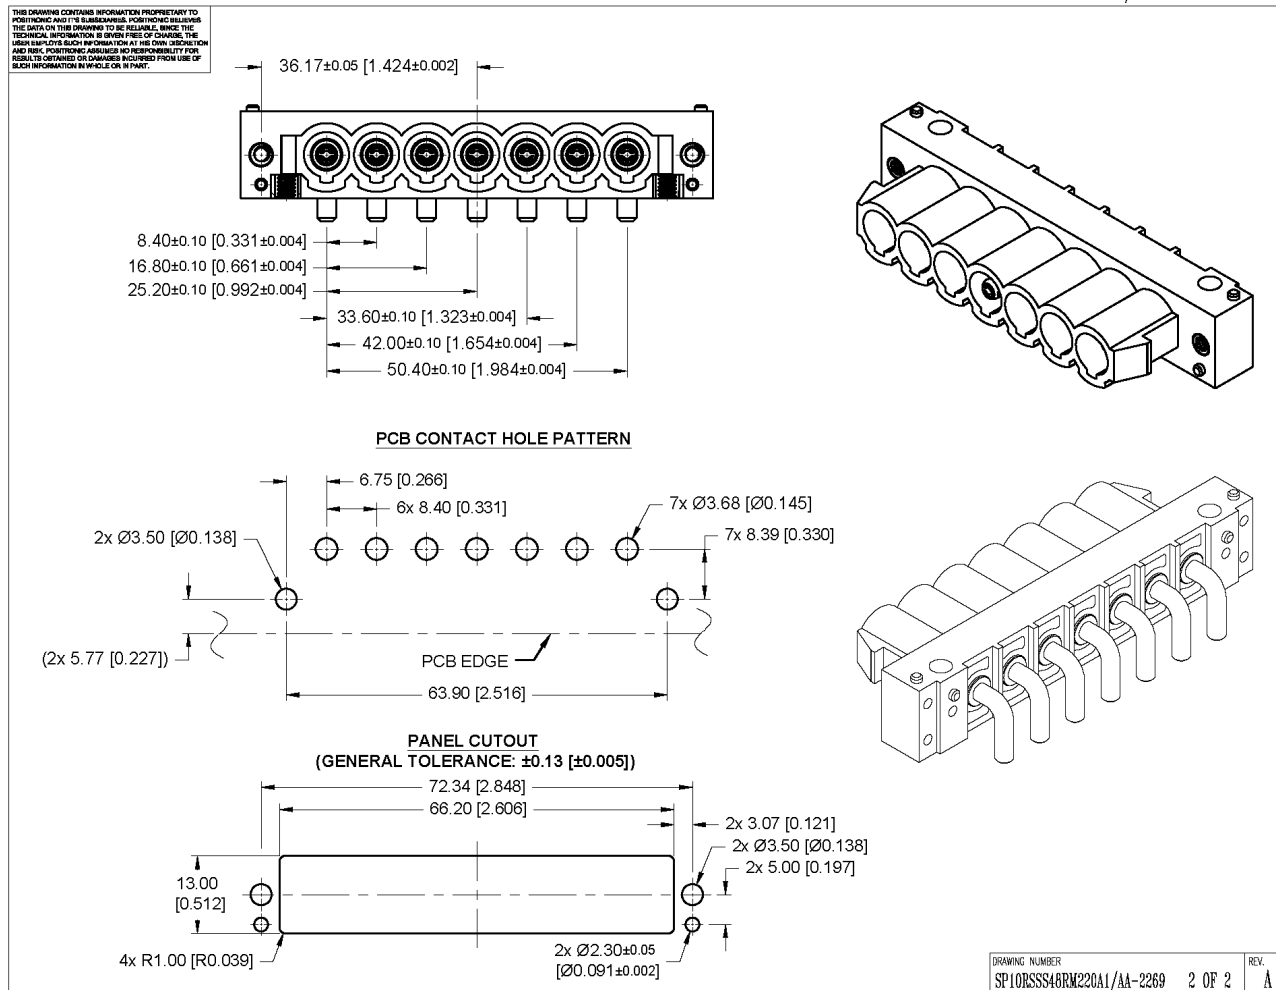

Figure 5.7 SP10RSSS48RM220A1/AA-2269
- For Left connector, refer to Figure 5.7 (SP10RSSS48RM220A1/AA-2269)